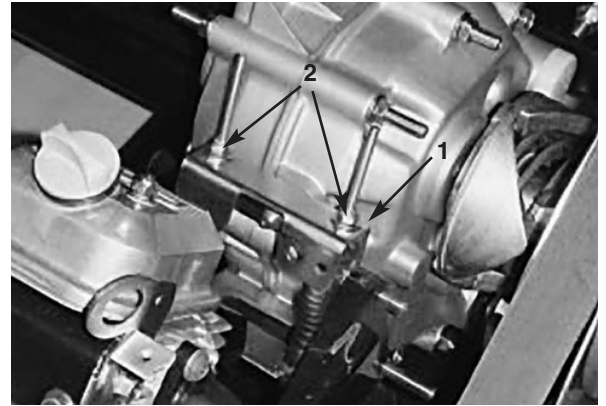

Figure 16
When performing routine maintenance and/ or engine diagnostics, the transaxle must be shifted into neutral (Fig. 16). The vehicle has a neutral position on the shift lever, which controls the neutral in the transaxle. The following steps should be taken to make sure that the neutral shift lever operates the transaxle neutral correctly:
2. Set the neutral bracket on the transaxle to the neutral position (level) (Fig. 16).
3. Tighten one of the locknuts (Fig. 16) just enough to take the slack out of the shift cable.